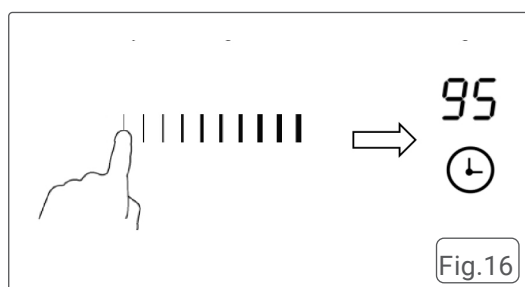

Fig.16
6. Once the time is set, the timer will start counting down immediately, and the display will show the remaining time. Fig.16